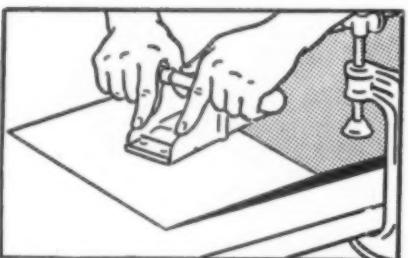

Figure 5
- Shave down belt ends tapering evenly from heels to tips (Fig. 5).